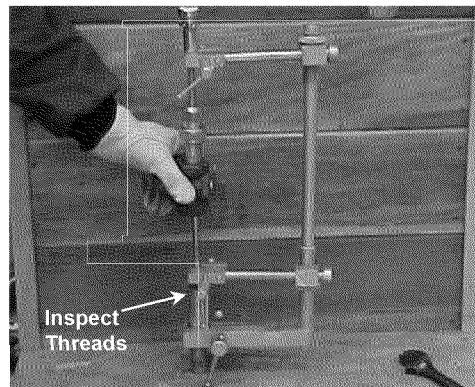

Figure 3
12. Unscrew valve and stuffing box assembly and raise valve slightly, then position lower/front shaft tube clamp on shaft tube and tighten. (Fig. 3).